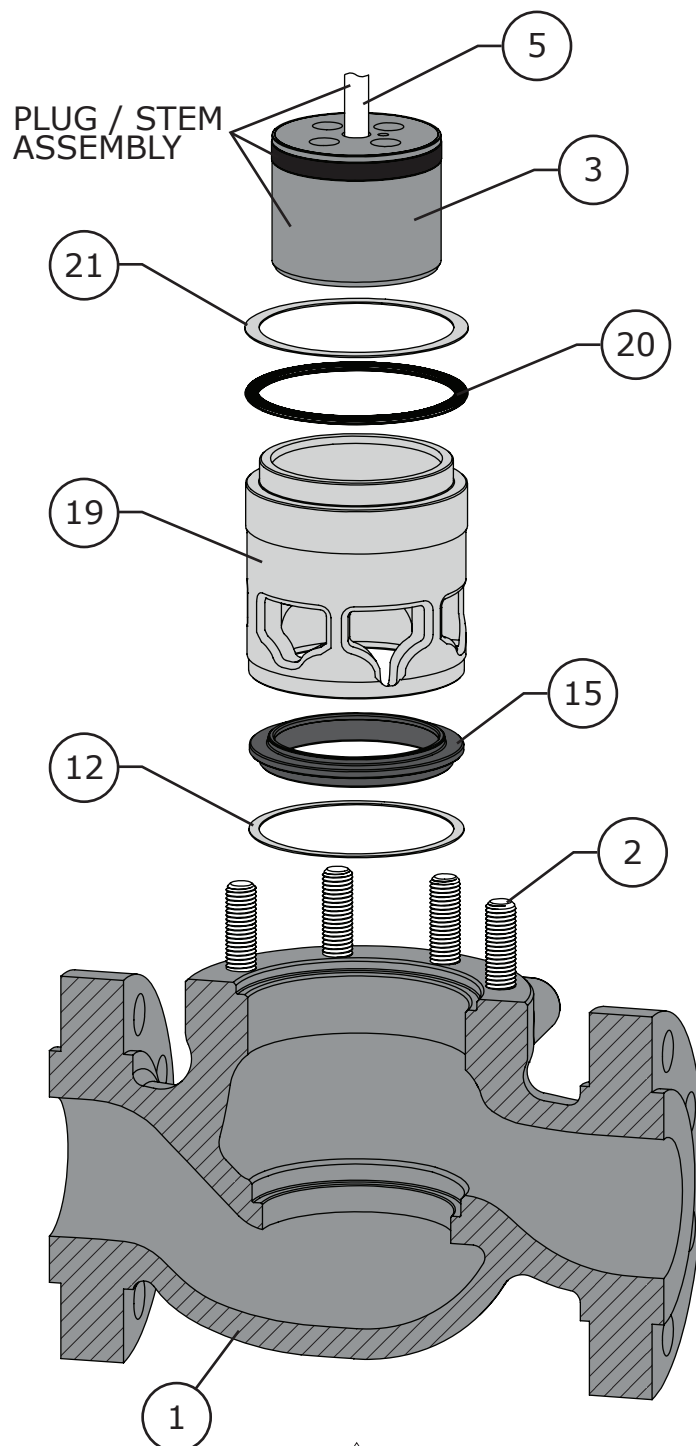

Figure 9 Standard Trim Parts Removal (Steps 1 - 6)
- 1** Remove the metal shim (Key 21) and spiral wound gasket (Key 20) if they haven't already been removed. Refer to Figure 9.
- 2** Remove the valve stem (Key 5) / valve plug (Key 3) assembly from the valve body (Key 1), refer to Figure 9. Refer to Plug Seal Removal section for disassembly instructions.